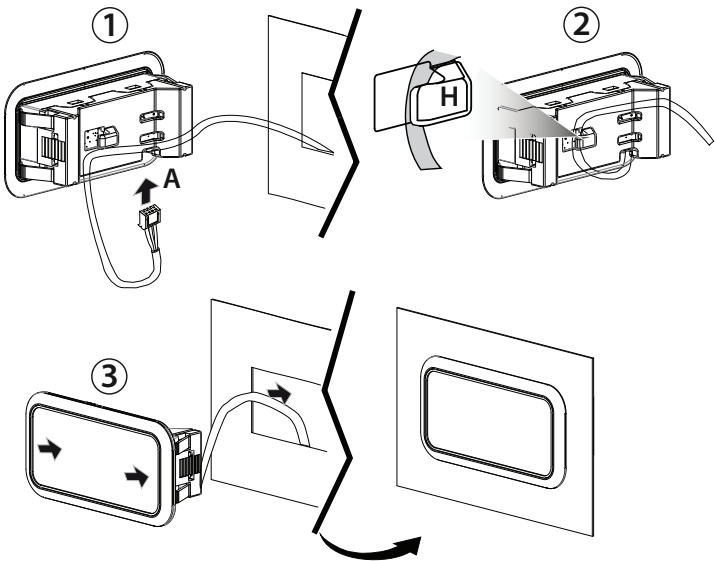

Fig. 3
1. 将配电盘的电缆插入A点（图3）；
1. insert the cable from the electrical panel into point A (Fig.3);